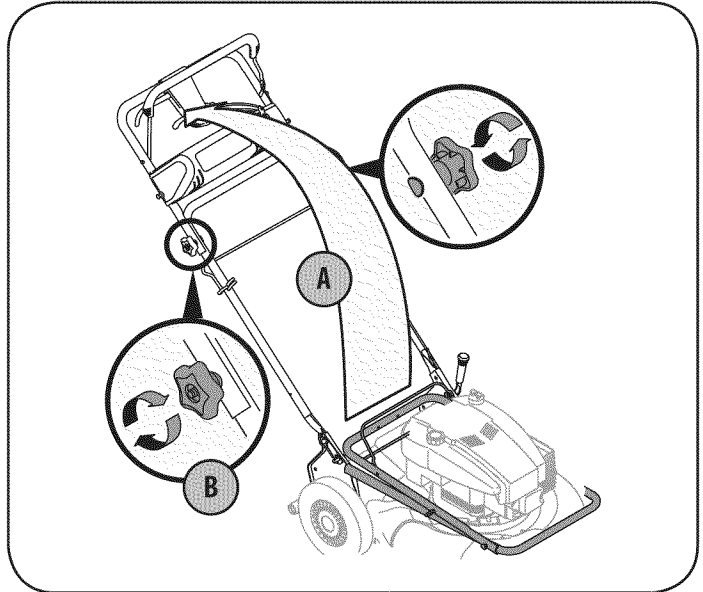

Figure 1
- a. Pull up and back on upper handle as shown in Figure 1. Make certain the lower handle is seated securely into the handle mounting brackets. Do not crimp cables while lifting the handle up.